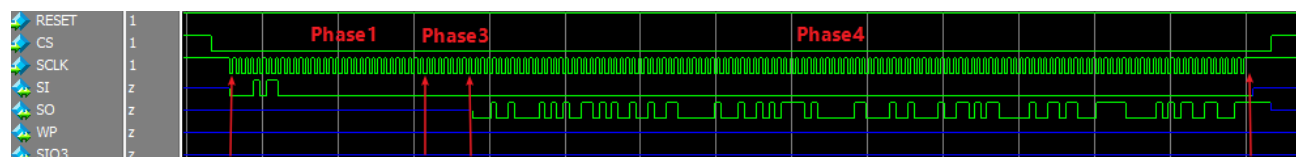

Figure 5.4. Example for FAST_READ Sequence
- SPI Flash FAST_READ example (Figure 5.4):